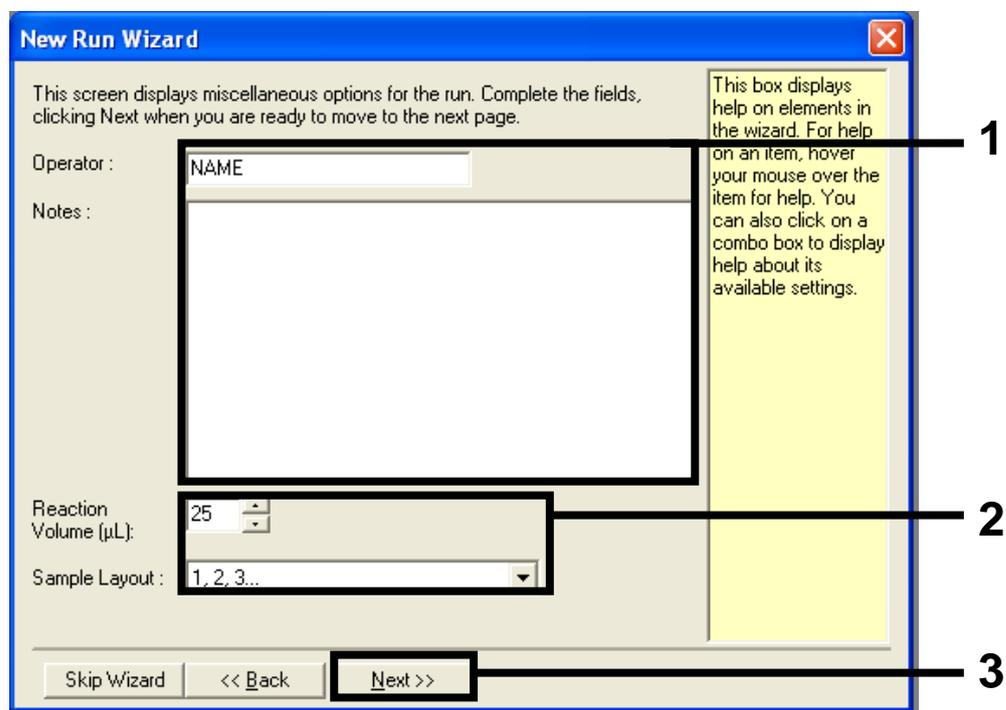

Figure 34. The "New Run Wizard" option screen. (1 = "Operator" and "Notes" fields, 2 = "Reaction Volume" and "Sample Layout" fields, 3 = "Next" button).
4. Enter the name of the operator. Add any notes, check that the reaction volume is set to 25 and "Sample Layout" reads "1, 2, 3...". Click "Next" (Figure 34).